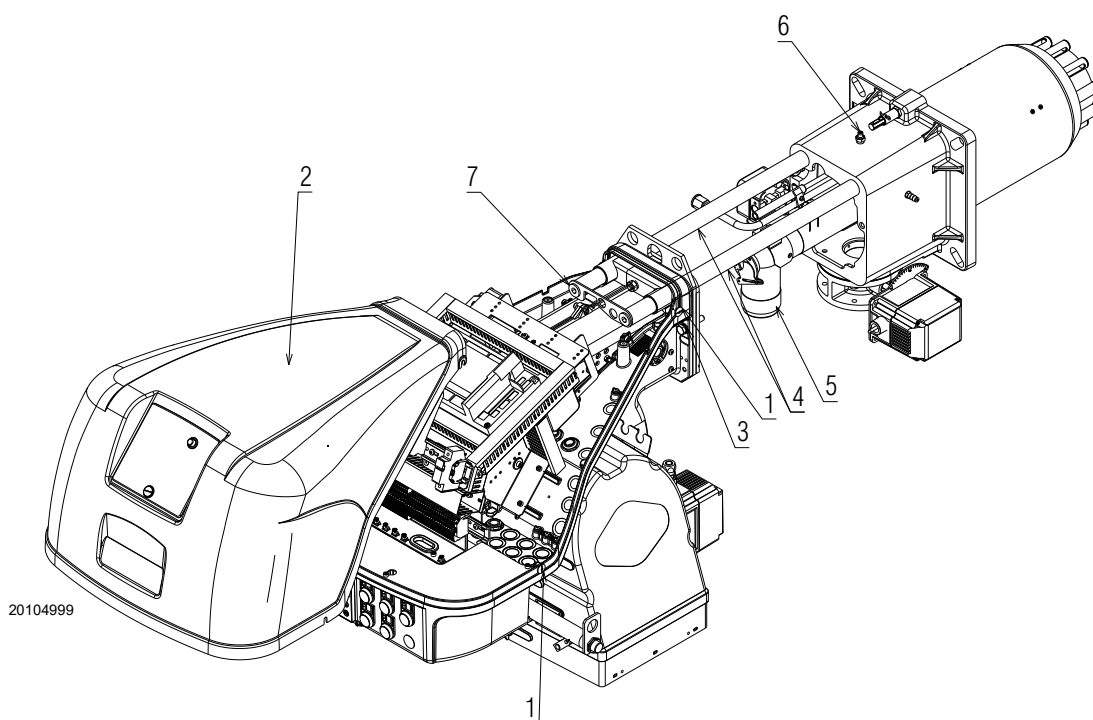

Fig. 35
- Loosen the 4 screws 1)(Fig. 35) and remove the hood 2);
- replace the screws 3)(Fig. 35) and carefully pull the probe and electrode cables outwards until they are slightly taut;